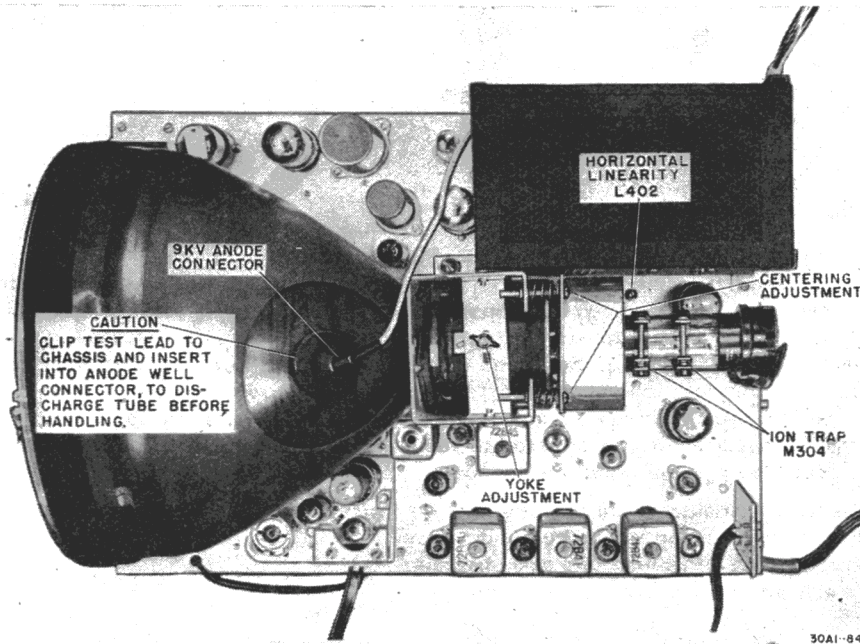
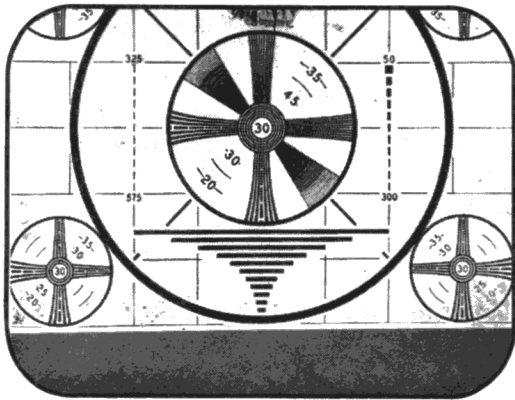
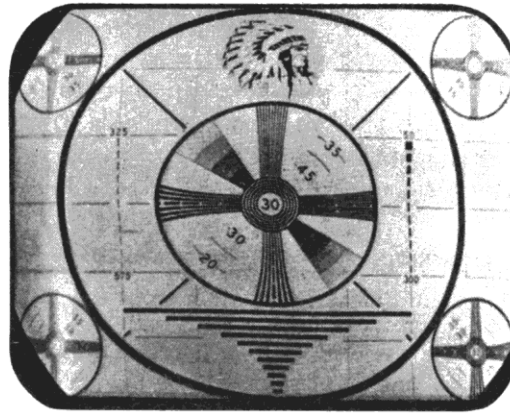

Fig. 5-14. Receiver Chassis, Top View Showing 10" or 12" Picture Tube
Fig. 5-15. Picture Too High or Too Low; Adjust Mechanical Position of Focus Coil
Fig. 5-22. Non-Linear Horizontally; Adjust HOR. DRIVE Control
If the picture is not centered on the screen (Figures 5-15 and 5-16), it may be corrected by adjusting the screws holding the focus coil assembly (see Figure 5-14 or 5-20). Should the focus coil require exces-
- If horizontal non-linearity (Figure 5-22) cannot be corrected by horizontal drive control adjustment, further adjustment can be obtained by means of horizontal linearity control L402 (Figure 5-14). (L402 has the greatest effect on the center of the pattern.)
- a. Remove the high voltage lead from the connector on the top of the picture tube (see Fig. 5-14).